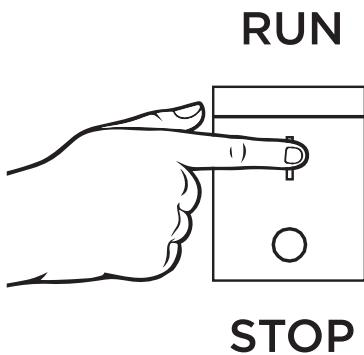

Figure 14 - Engine Control Switch - RUN
5. Push the engine control switch into the RUN position (see Figure 14 below).